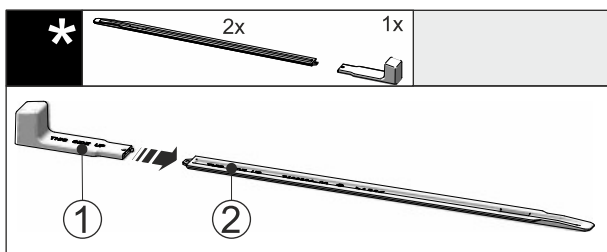

Fig. 51
- Attach the installation handle Fig. 51 (1) to the levelling rail Fig. 51 (2).